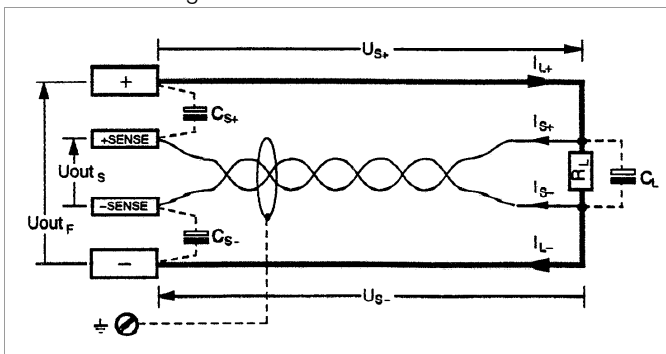

Figure 5.2 Connecting the Power Consumer for Sensing Mode Operation
- The **parameters** and **limit values** included in figure in **figure 5.2** and in the section entitled **Electrical Data** apply for operation with the sensing leads.
- Control fluctuations can be counteracted with one capacitor each (C_{S+} , C_{S-}) between the **SENSE** and **output terminals** (see Figure 5.2).